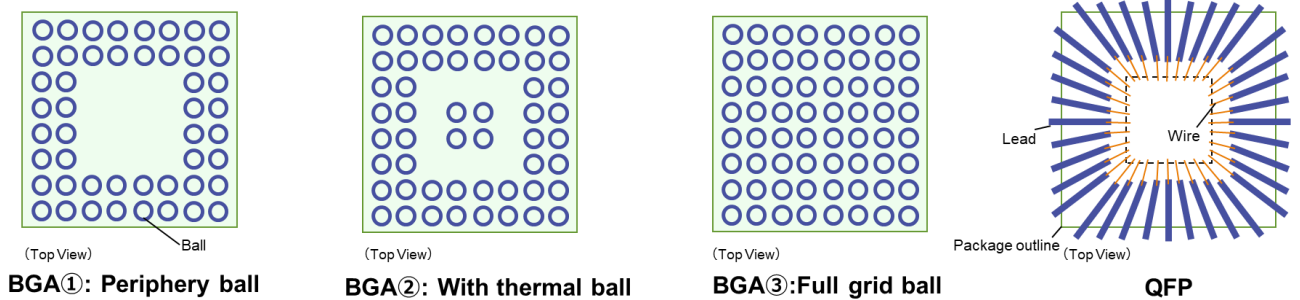

Figure 2, Example of BGA ball placement
As shown in Figure 2, the number of signals that can be connected to QFP is almost fixed relative to the package size (See Figure 2, Case QFP), BGA packages can be roughly divided into three ball arrangements.
- The first is when the ball is placed on the outer periphery of the package (See Figure 2, Case BGA①). It is used when the number of signals is relatively small for the package size.
- The second is when a thermal ball is placed directly under the chip in addition to the outer circumference of the package (See Figure 2, Case BGA②). It is adopted when heat dissipation needs to be considered.
- The third is when the balls are placed across the entire surface of the package without gaps (See Figure 2, Case BGA③). It is used when the number of signals is large. In general, it is more difficult to design packages and boards with such a package, and both the package and the board it can be mounted on can become expensive.